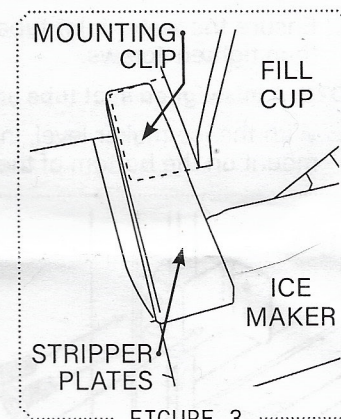

FIGURE 3
9. When installing the fill cup, ensure the mounting clip is below the stripper plate. Do not leave the mounting clip ajar against the stripper plate as this may cause the ice maker to fill improperly. See Figure 3.
10. Insert the two (2) included mounting screws into the freezer wall. Turn each screw clockwise five times.